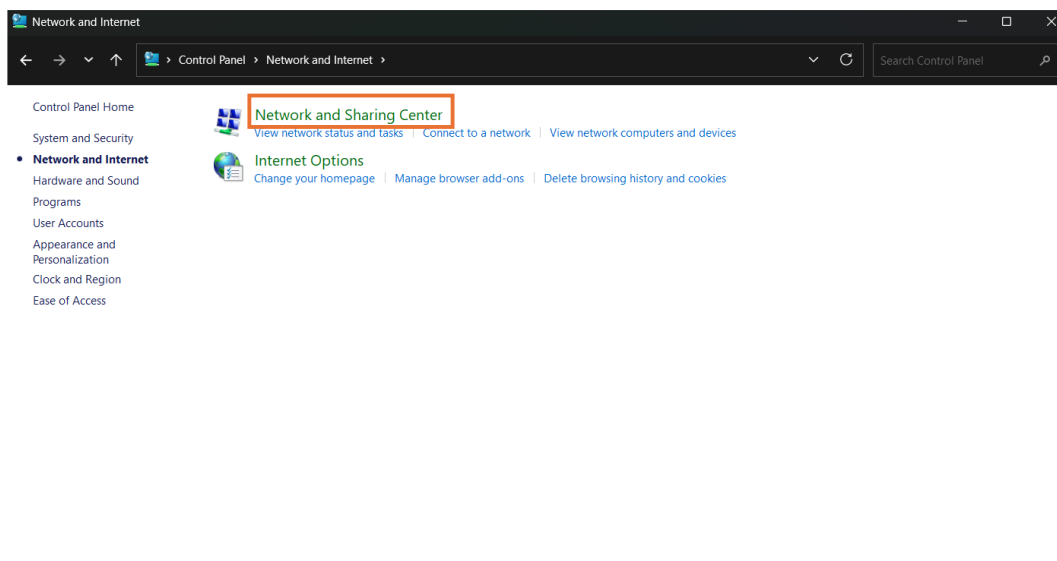

Figure 5.24. Network and Internet
- c. Click **Network and Sharing Center** as shown in Figure 5.24.